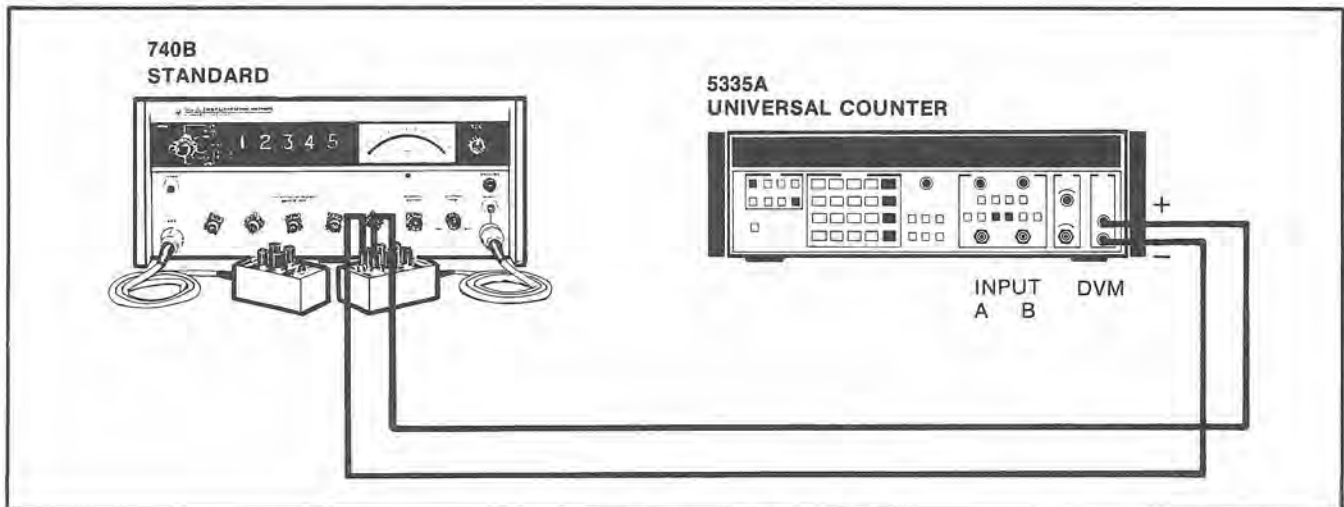

Figure 4-18. DVM Test Set-Up (Option 020)
f. Connect power supply to the 5335A DVM input terminals as shown in Figure 4-18.